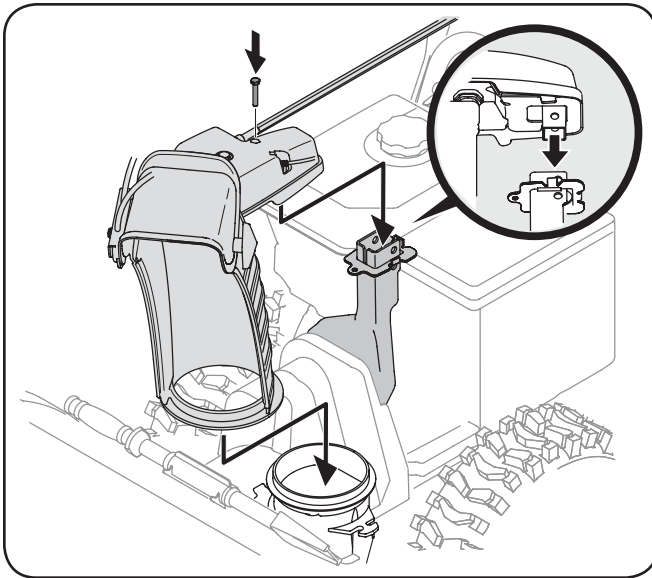

Figure 3-8
- Place chute onto chute base and ensure chute control rod is positioned under the handle panel. Install hex bolt previously removed, but do not secure with wing nut at this time. See Fig. 3-8.